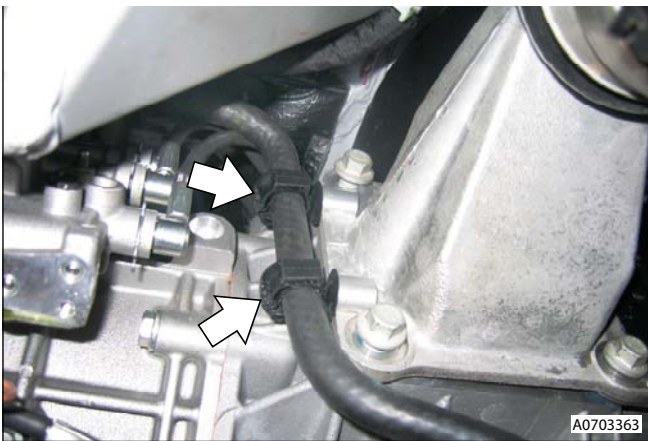

Figure 2
19. Release reservoir hose from mounting bracket (clips x2) (see Figure 2).